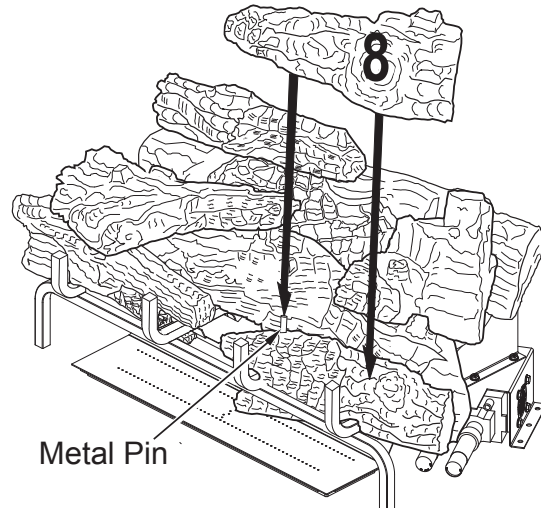

Figure 45 - Installing Log #8
8. Place the front right mid log (#8) on top of the front right log (#4) as shown in **Figure 45**. Match the round metal pin on the top of the front right log (#4) with the round hole on the bottom of the front right mid log (#8).